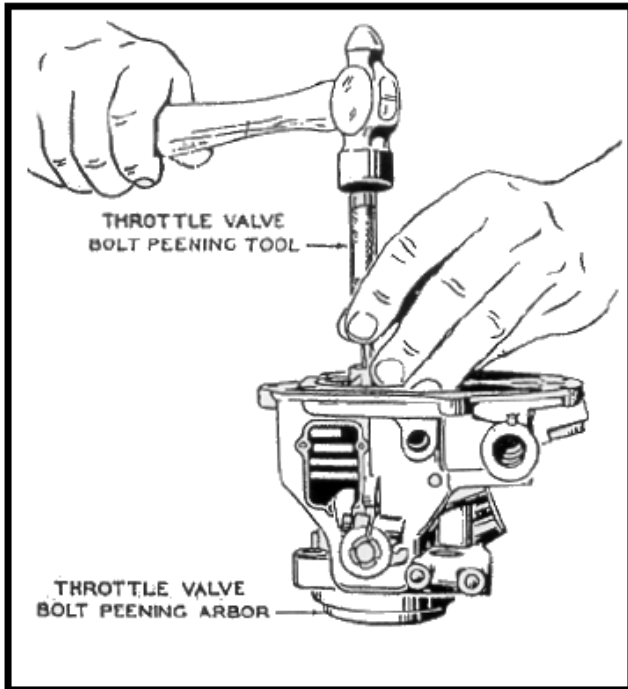

Figure 2-24. Peening Throttle Valve Bolts
- j. Start the two bolts (64) into the throttle shaft and lever assembly (65) but do not tighten at this time. While holding the throttle valve in a closed position, tap on the part number side with a screwdriver until the throttle valve is fully settled in the bore. While holding the valve seated, tighten the two bolts (64) securely.
- k. Insert the throttle valve bolt peening arbor (7, figure 2-17) into the flange end of the throttle body bore and rotate the tool so that the groove in the end will be aligned with the throttle shaft. With the arbor on a solid surface, set the throttle body down on the arbor and, with the throttle valve bolt peening tool (15, figure 2-17),peen the ends of both bolts (64, figure 2-19) securely. (See figure 2-24.)